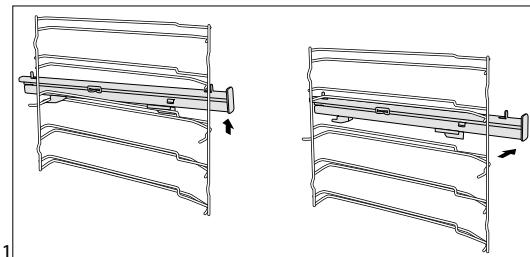

Fig. 1
2. Lift one end of the telescopic extension Fig. 1 with force.